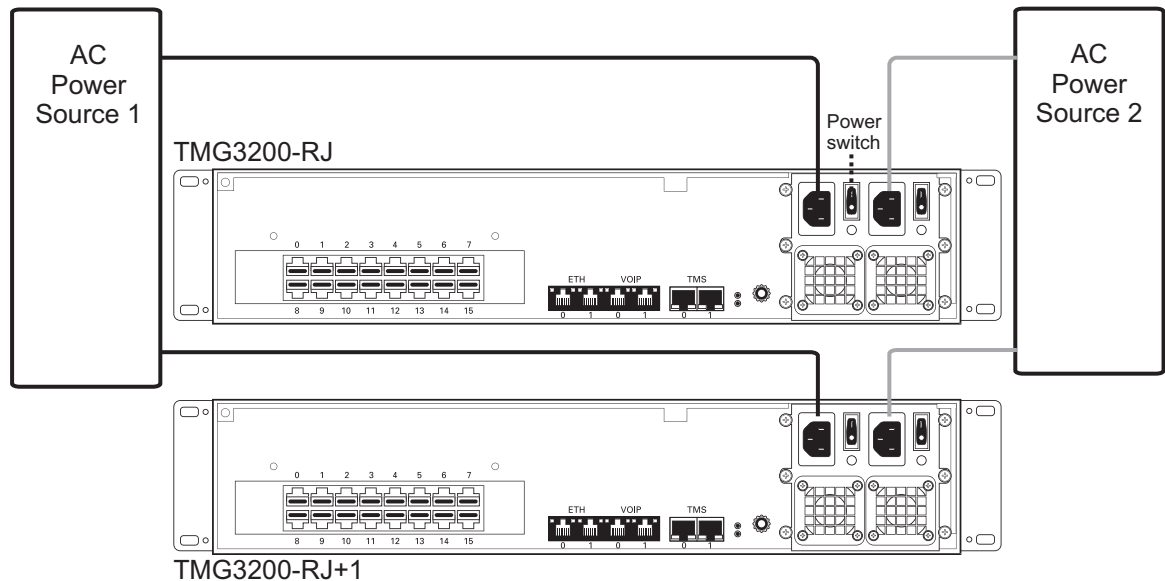

Figure 2.17 TMG3200 and TMG3200 +1 AC Power Connections
1. Connect the first power connector of each unit to the first power source. See Figure 2.17.